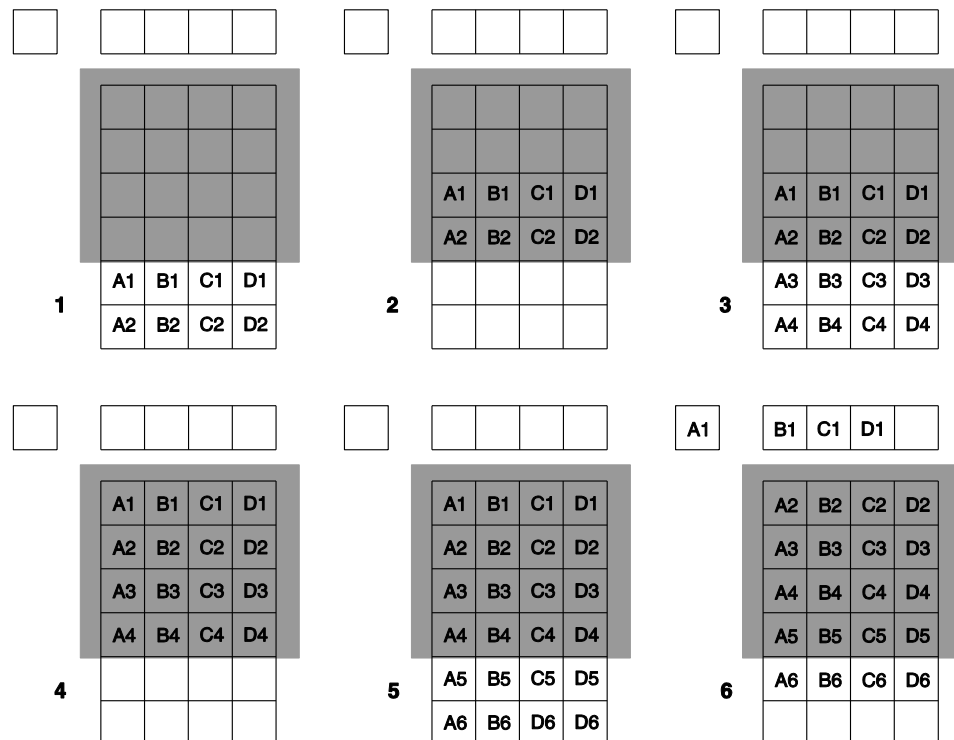

Figure 30. Kinetics Readout
Below is a simplified illustration of kinetics mode that uses a  $4 \times 6$  CCD with  $2/3$  of the array masked, either mechanically or optically. The shutter opens to expose a  $4 \times 2$  region. While the shutter remains open, charge is quickly shifted just under the mask, and the exposure is repeated. After a third image is collected the shutter is closed and the CCD is read out. Since the CCD can be read out slowly, very high dynamic range is achieved. Shifting and readout are shown in Figure 30.
**Example:** Referring to the readout shown in Figure 30, there are 6 pixels perpendicular to the shift register and the Window Size is 2 pixels high. The number of frames is 3. If the Vertical Shift Rate for the CCD is  $1.6 \mu\text{sec}/\text{row}$ , the Shift time will be  $3.2 \mu\text{sec}$  per frame.